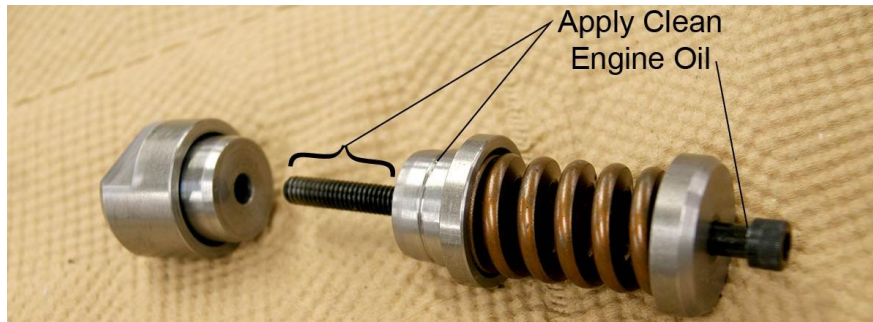

Figure 4
2. Apply a coating of clean engine oil to the threads of the bolt, the shoulder on the center section, and under the head of the bolt of the ST-531 (Figure 4).